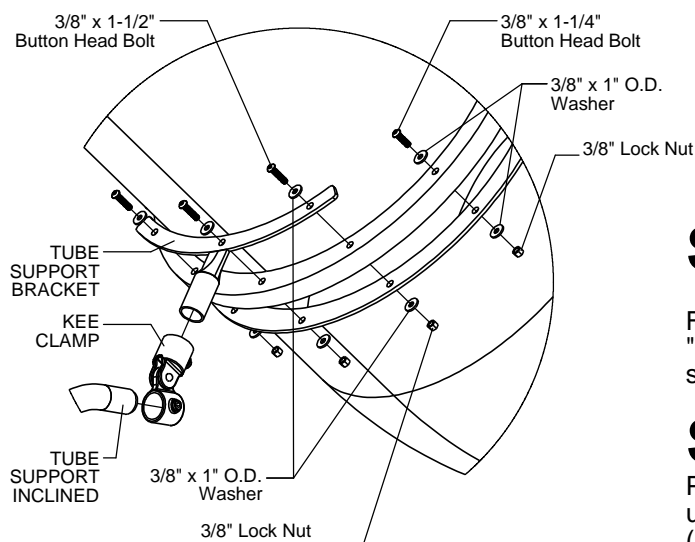

Figure 1.2
Attach Tube Sections with Tube Support as shown in Figure 1.2.
**Note:** Tube Support required for every second Tube Section. Refer to the Top View of your structure for Tube Support Orientation. Dig footing hole and attach tube support to tube section. (Refer to Section 1708 Tube Support Assembly of the Installation Manual, Figure 1.2, Note A and Note B)